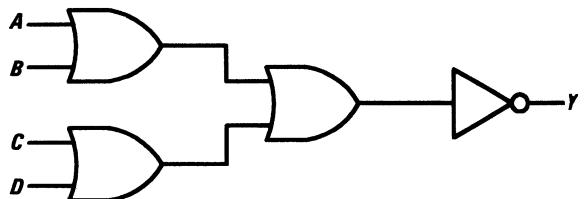

Figure A2.24
48. What single logic gate can be used to replace the logic circuit shown in Fig. A2.24? [Page 165]